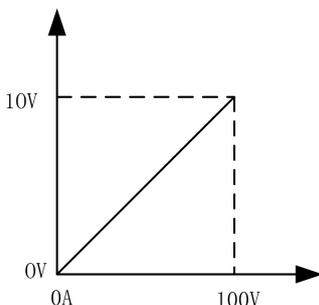

Fig. 4-33 Proportional diagram: real-time welding voltage V.S. value from welding machine to robot
2. The proportional diagram of feedback of the real-time welding voltage is shown in Fig.4-33.